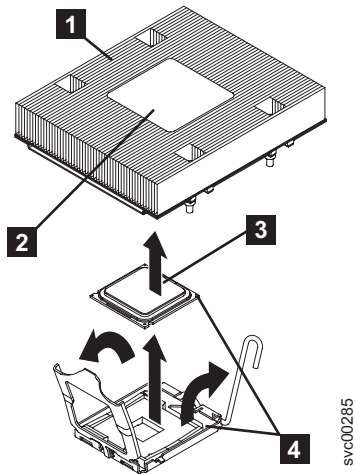

Figure 183. Removing the heat sink from the microprocessor
3. Remove the heat sink (**1** in Figure 183 on page 458). Loosen two captive screws on alternate sides of the heat sink fully before loosening the other two captive screws. (This helps to break the bond between the heat sink and the microprocessor.) After the captive screws are loosened, remove the heat sink.